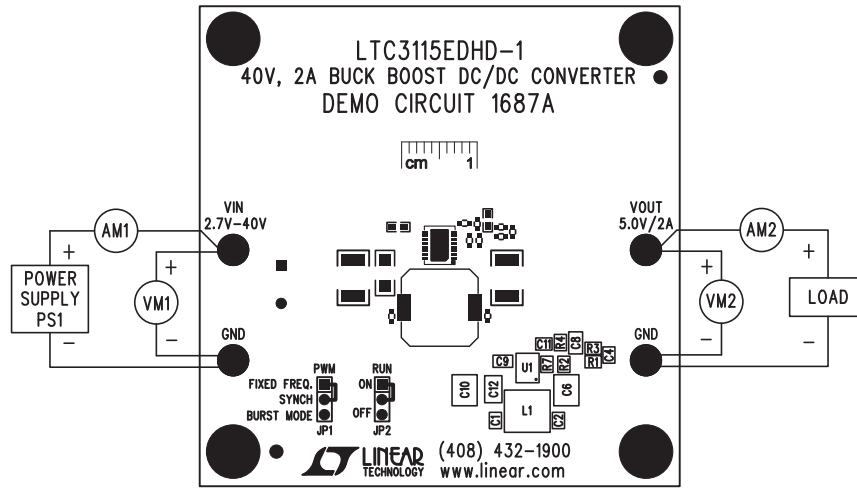

Figure 3. Proper Measurement Equipment Setup
Using short twisted pair leads for any power connections and with all loads and power supplies off, refer to Figure 3 for the proper measurement and equipment setup. The battery/power supply (PS1) should not be connected to the circuit until told to do so in the procedure below.
2. With power OFF connect the power supply (PS1) as shown in Figure 3. If accurate current measurements are desired (for efficiency calculation for example) then connect an ammeter in series with the supply as shown. The ammeter is not required however.
3. Connect a 500mA load to V_{OUT} as shown in Figure 3 (10Ω for $V_{OUT} = 5V$). Connect an ammeter if accurate current measurement or monitoring is desired.